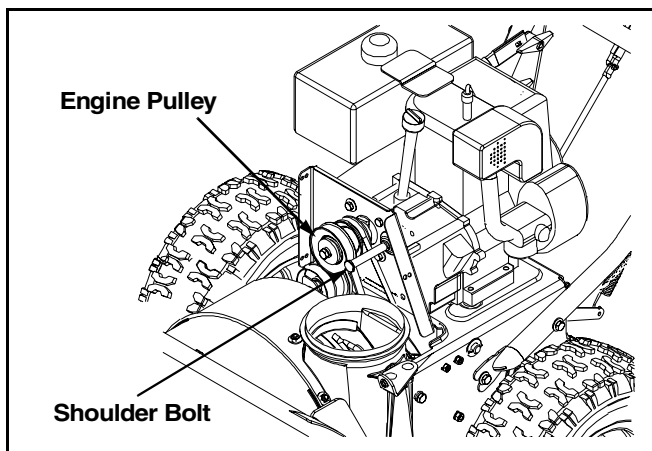

Figure 18
- Remove the large shoulder bolt and washer on the left hand side of the engine pulley. See Figure 18.
- Remove the upper bolts and lock washers which attach the auger housing assembly to the frame assembly using a 9/16" wrench. See Figure 18.
- Secure the two halves with the two bolts and lock washers removed earlier. Refer to Figure 18.
- Insert ferrule on auger idler rod into bracket assembly and secure with flat washer and cotter pin. Reassemble the large shoulder bolt and lock washer as shown in Figure 18.